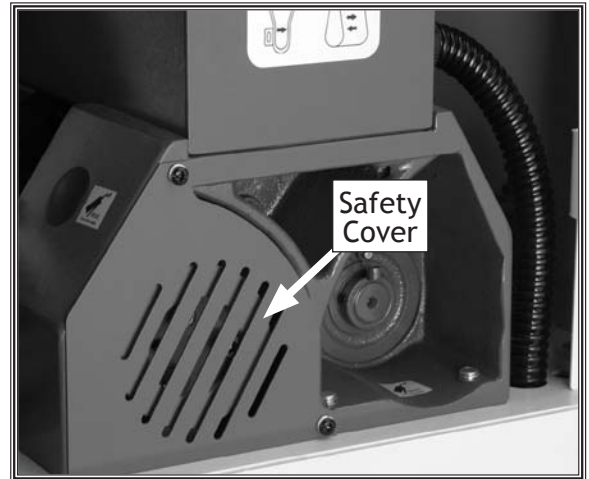

Figure 38. Safety cover and mounting screws.
3. Remove the screws and the safety cover for access to the upper pulley. See **Figures 38** and **39**.